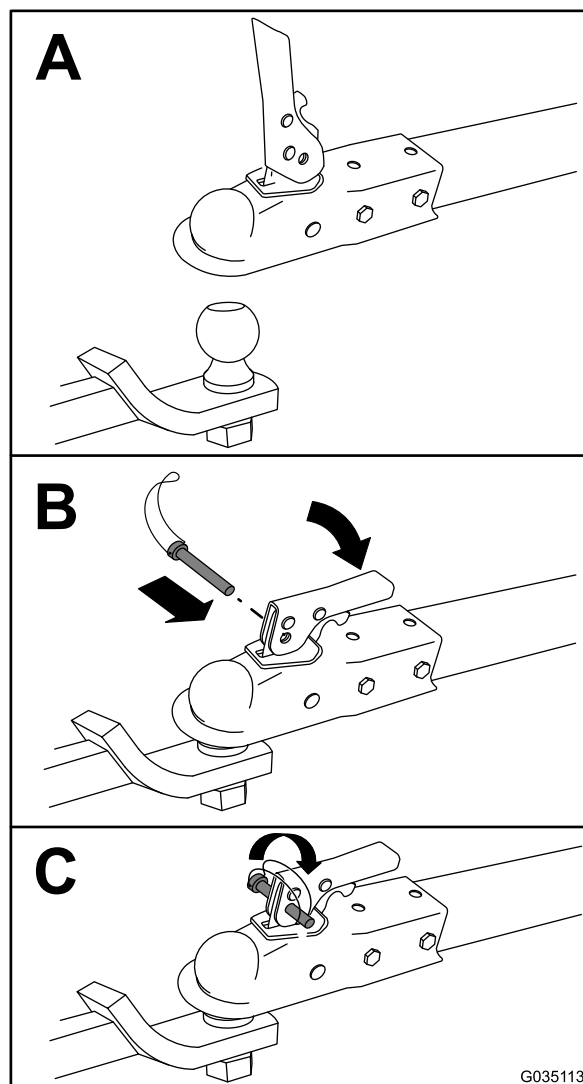

Figure 16
3. Hitch the machine as shown in Figure 16.